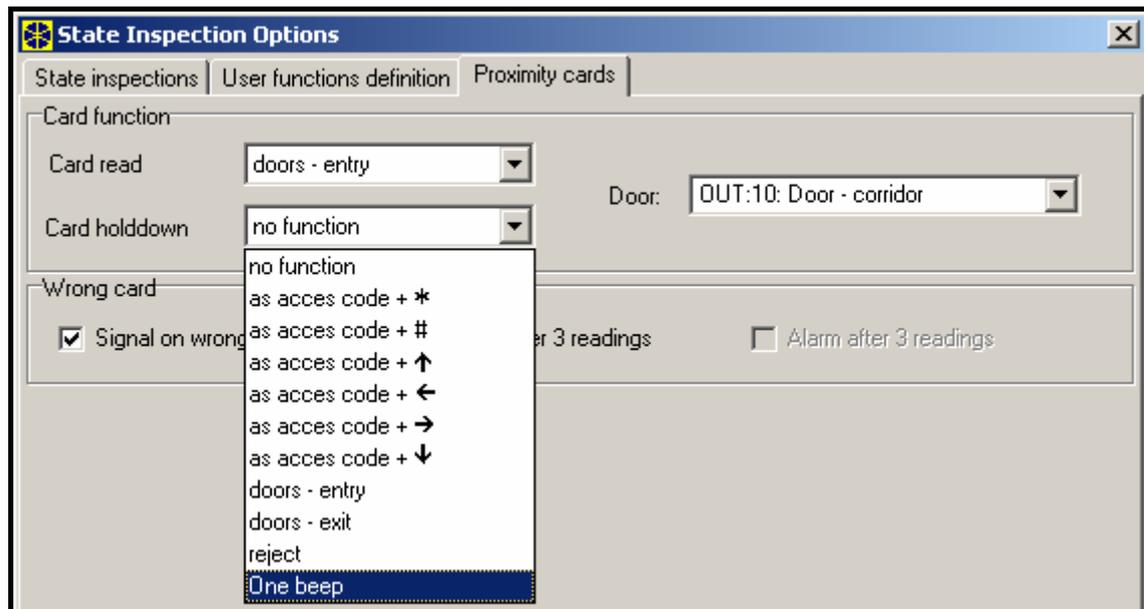

Fig. 16. Handling proximity cards.
- 101. CARD READ – EXPANDER** – the output signals that the card has been read in indicated modules/keypads. It can be used to perform the function of access control and door control from the keypad. To this effect, indicate the keypad in which reading in the card will activate the output, and the partitions from which the users will be able to open the doors. In the keypad settings, you should indicate the control panel output as the door (see Fig. 16). It is necessary to define the door opening function for presenting/holding the card, and select whether this event is to be logged as an entry or an exit.